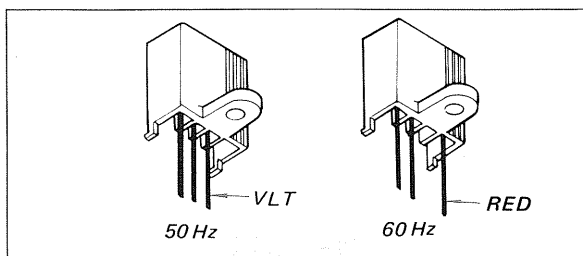

Fig. 3-4. Motor wiring for 50 Hz and 60 Hz
1. Remove the self-tapping screw (\oplus P 3 \times 8) securing the 4-p AMPLOK socket to the turntable base and then change the wiring to match the line frequency as shown in Fig. 3-4.